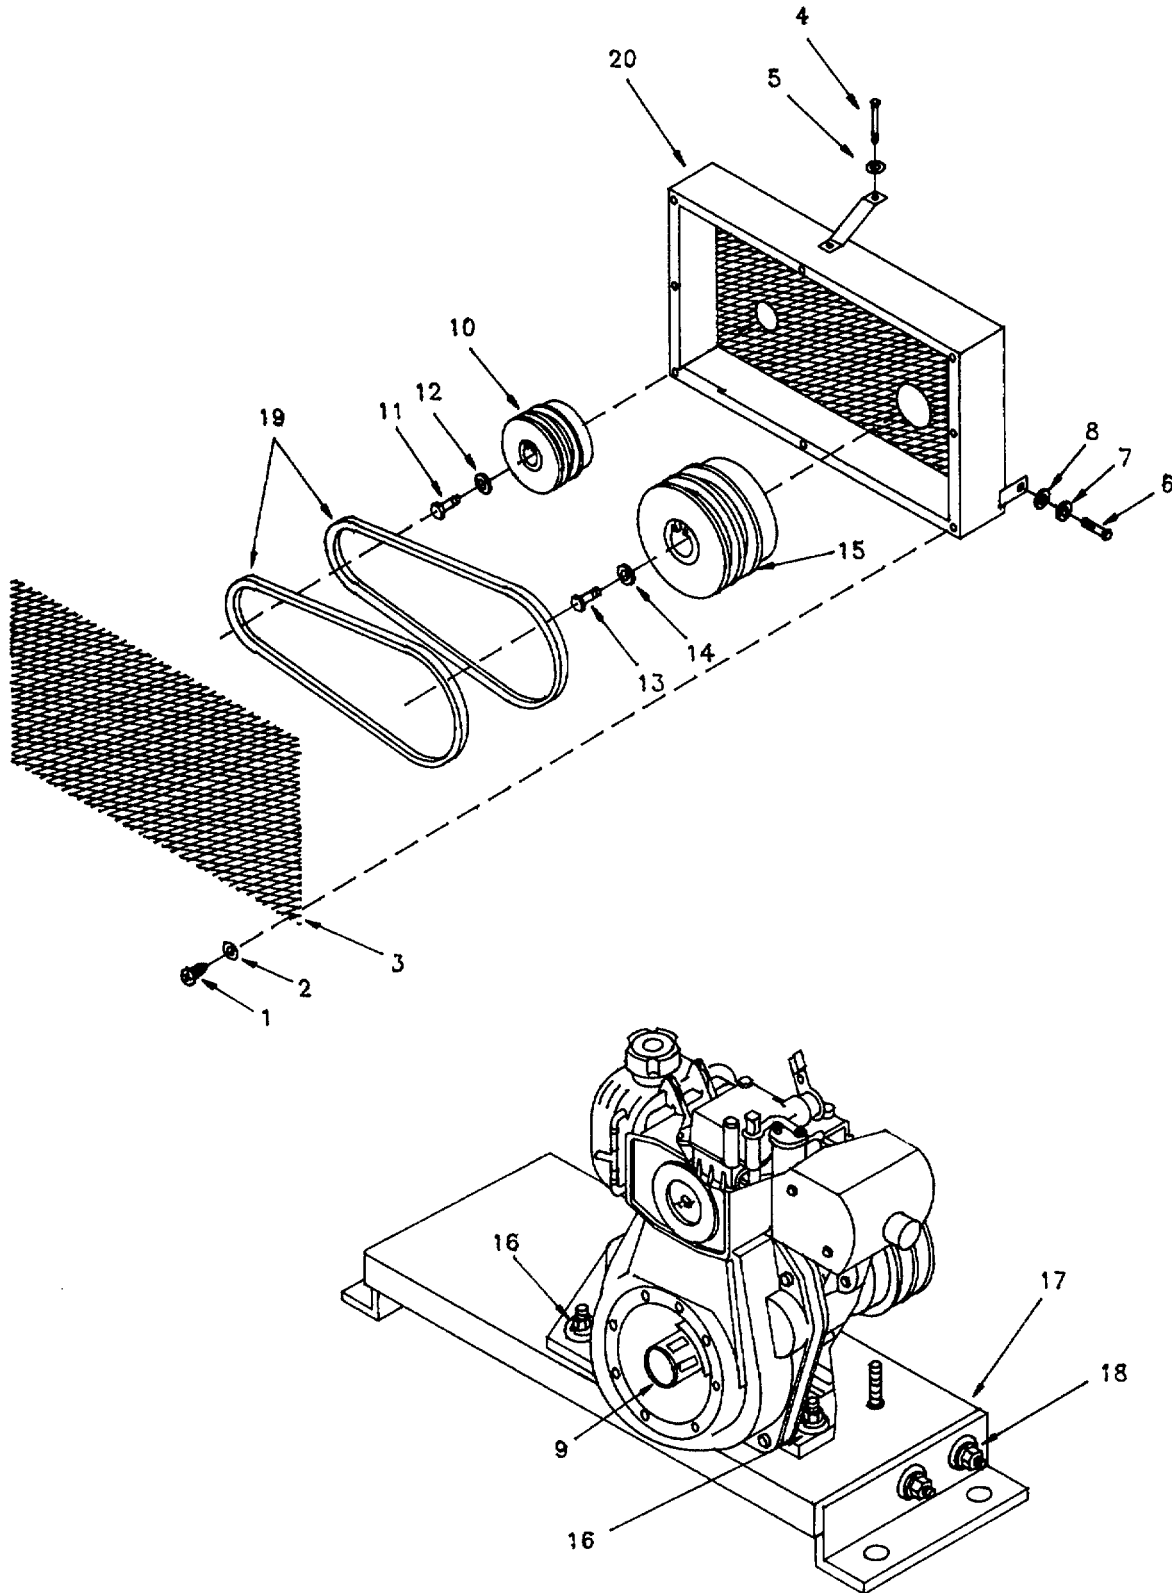

Figure 4-3. Complete Belt Guard Assembly.
- (1) Remove machine screws (1, Figure 4-3) and flat washers (2) holding metal grille (3) to belt guard cage (20).
- (2) Remove bolt (4) and flat washer (5) from support arm of belt guard cage (20).
- (3) Remove cap screws (6), lock washers (7), and flat washers (8).
- (4) Remove recoil starter on engine (para.4-18).
- (5) Use a bar on engine start pulley (9) to hold engine crankshaft from turning when removing cap screw from friction clutch assembly (10).
- (6) Remove cap screw (11), flat washer (12), on friction clutch assembly (14).
- (7) Remove cap screw (13), bearing thrust washer (14) on compressor groove pulley (15).
- (8) Loosen hexagon nuts (16) on engine sub-base (17).
- (9) Loosen hexagon nuts (18) so engine can slide forward then remove V-belts (19).
- (10) Remove friction clutch assembly (10)
- (11) Remove compressor groove pulley (15).